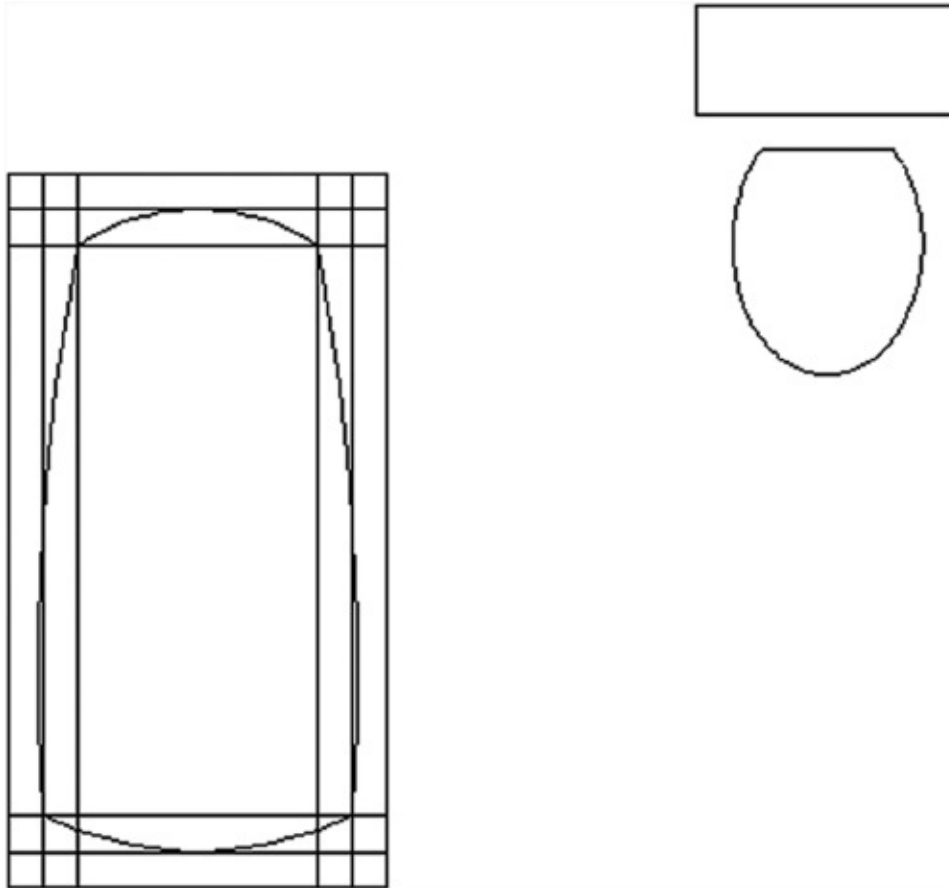

FIGURE 3.13 The inside of the tub completed with the layout lines still in place
5. At the Erase source objects? [Yes/No] <N>: prompt, press ↵ to accept the Mirror command's default Erase source objects option (No) and exit the Mirror command. A mirror image of the arc you picked appears on the right side of the tub. Your drawing should look like Figure 3.13.